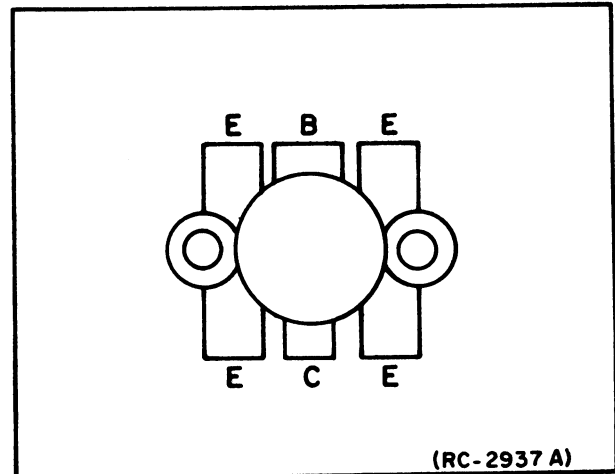

Figure 2 - Lead Identification
4. Trim the new transistor leads (if required) to the lead length of the removed transistor. The letter "C" on the top of the transistor also indicates the collector (see Figure 2).